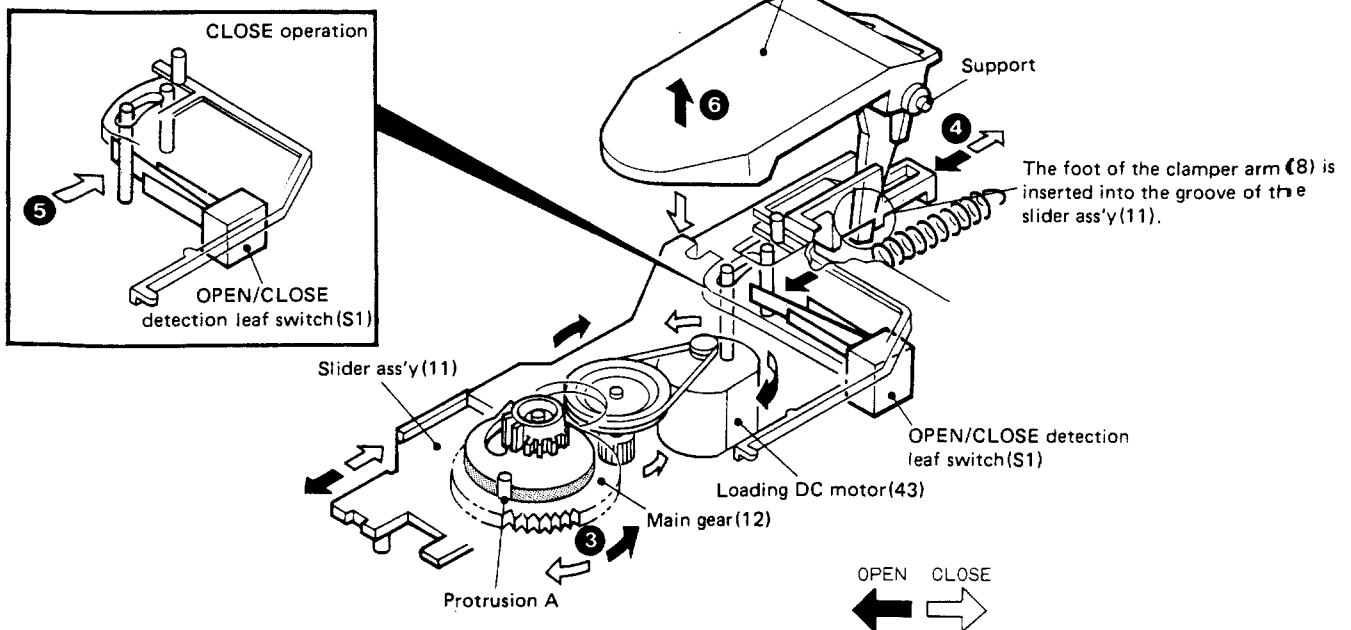

Fig. 3 Clamber arm operation
Fig. 3 shows the movement of protrusion A of the slider ass'y(11) in the direction of the black arrow ④ until the tray is completely opened.